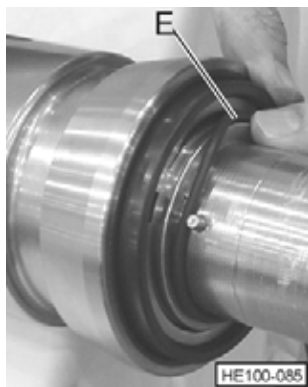

Figure 51 - Install Keeper O-ring
The seal body is held in place on the mutator shaft by two seal drive pins. Each one should be 3/32 inches (+/-0.015) above the stub shaft surface. It is extremely important that these pins are not rounded on the edges and this dimension is maintained. If the pins are higher than 3/32", the seal will jam; if the pins are too low, the body will rotate. See Figure 51.
5. Install "keeper" O-ring (See Figure 51, Item E) on shaft to keep rotating parts assembled.